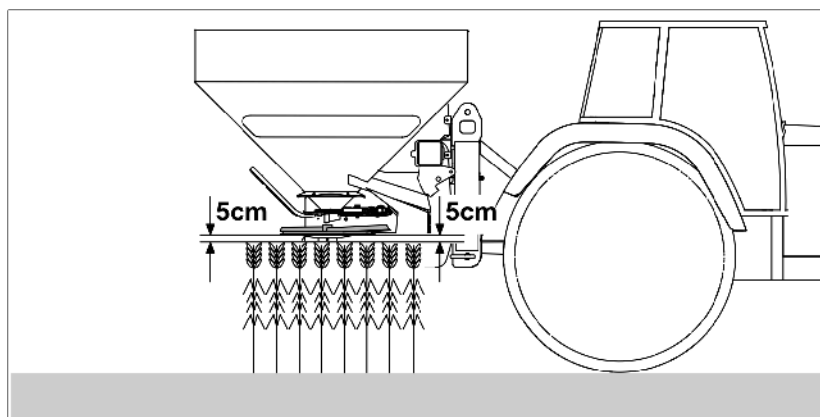

Fig. 37
- 2.1 Unscrew the thumb bolt (Fig. 37/1) securing the spreader disc and remove the spreader disc from the gearbox shaft.
3. Attach the fertiliser chute (Fig. 37/2) to the frame.
4. Attach the collection bucket to the frame with the bracket (Fig. 37/3) as shown.